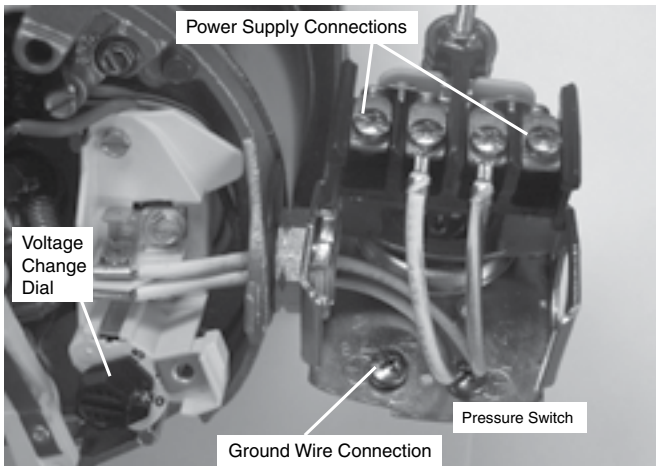

Figure 12: Voltage set to 230 volts, Dial Type
4. Attach the ground wire to the grounding connections as shown in Figure 12.
- Step 1. Connect the ground wire first as shown in Figure 12. The ground wire must be a solid copper wire at least as large as the power supply wires.
- Step 4. Connect the power supply wires to the pressure switch as shown in Figure 12.